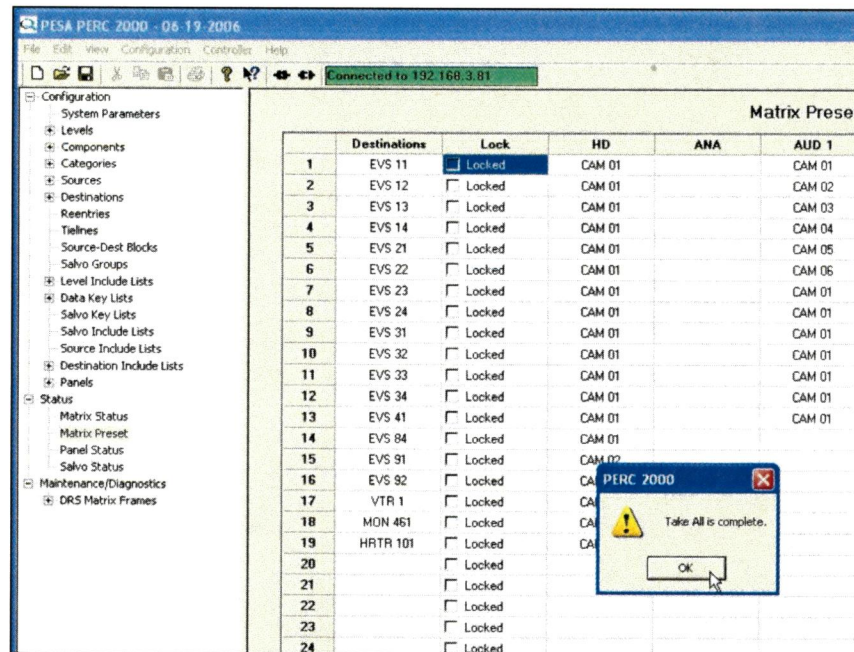

Figure 56. Take All Command Completion Notification
13. Once the matrix has updated to the status of the matrix preset file, the dialog box shown in Figure 56 will appear. Click **OK** to clear the box.